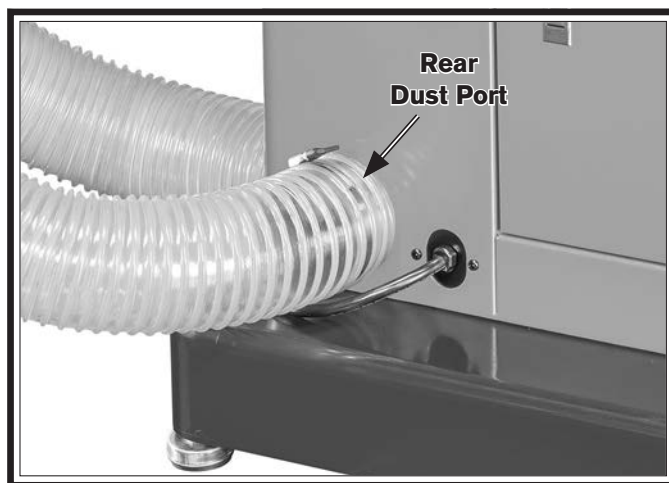

Figure 18. Dust hose attached to rear dust port.
1. Fit 4" dust hose connected to a dust collector over rear dust port (see **Figure 18**), and secure in place with hose clamp.